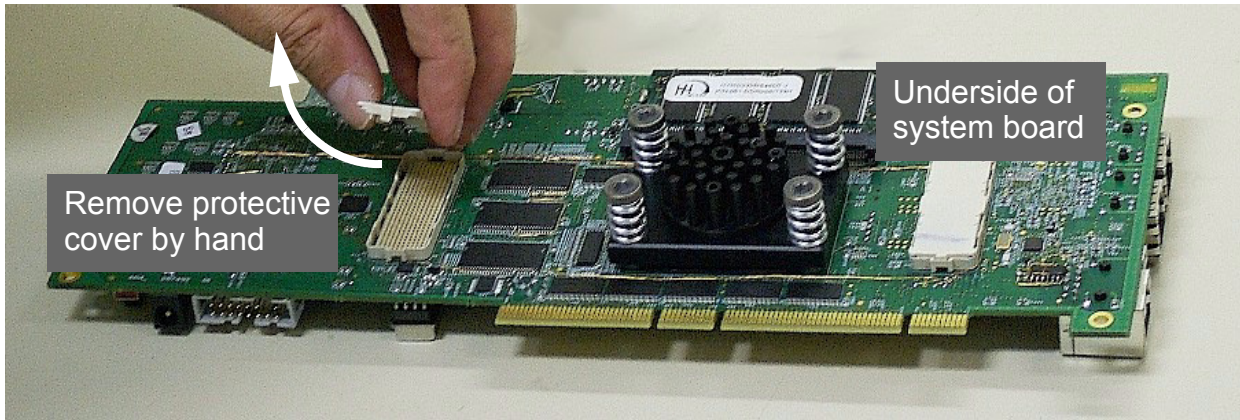

Figure 2-1 Remove Protective Covers from 300-pin connectors (underside of 8Xxx Processor Board shown)
1. Remove protective covers from the 300-pin connectors on the bottom side of the processor board (See Figure 2-1).